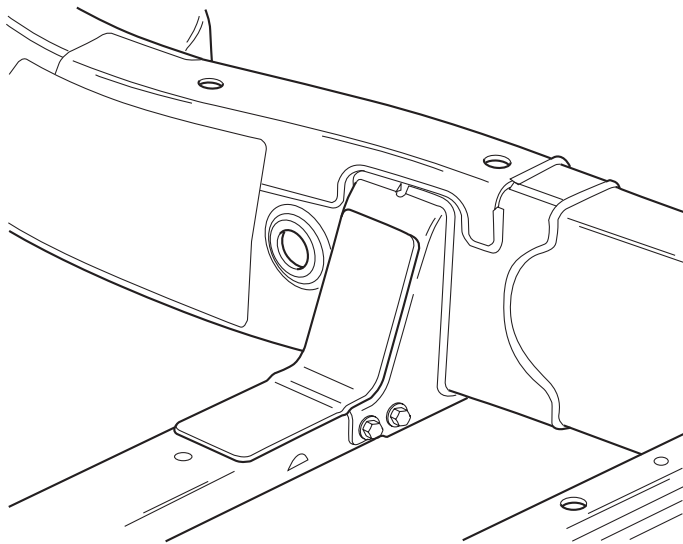

FIGURE 14 – SELF ADHESIVE HEAT SHIELD (RH SIDE ONLY)
- e. The transmission c/m adhesive backed heat shield to the right hand side of the transmission cross member and frame bracket. (Refer to Figures 14 and 15). (P/N FL34-5E094-C*).